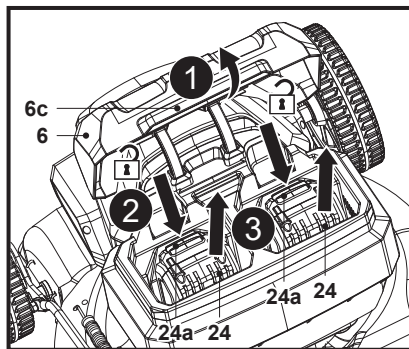

Fig. 8
1. Grip the cover handle (6c) and open the battery compartment cover (6) (Fig. 8, step 1).
2. Press down the release button (24a) to unlock the latch of battery pack (24) (Fig. 8, step 2).
3. Slide out the battery pack (24) from the battery compartment (Fig. 8, step 3).
4. Repeat the above steps to remove another battery pack (24).
5. Carefully close the battery compartment cover (6).